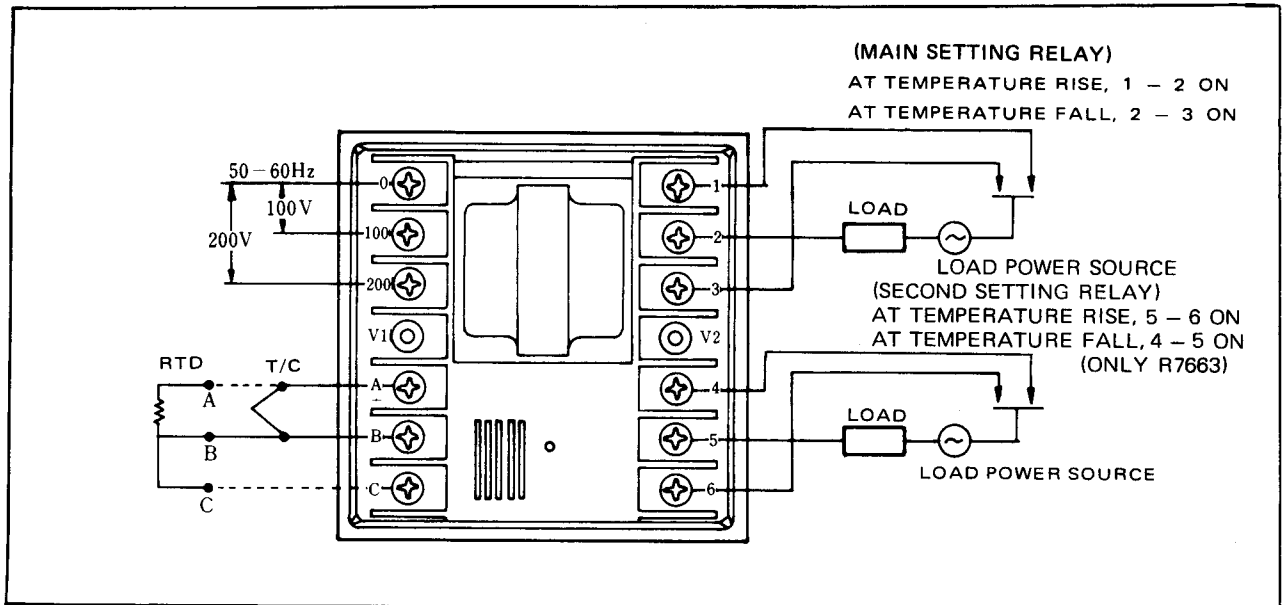

Fig. 2
- (2) Make wiring according to the symbols of the customer terminals (See Fig. 2)
- (3) No power switch and fuse are provided in the instrument. If they are required, provide them externally.
- (4)-a Only Thermocouple